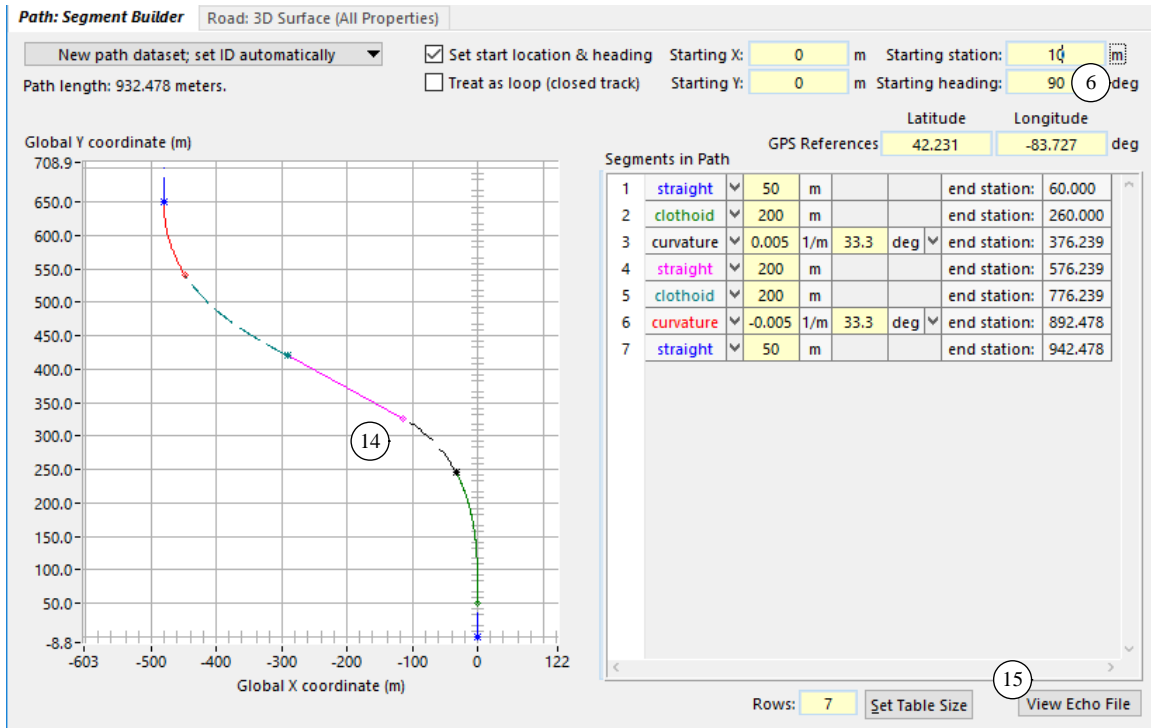

Figure 9. Effect of setting the starting heading angle to 90° for the example path.
- ⑭ A plot is made with coordinates calculated using the current settings on the screen. Different segments are shown in different plot colors and/or line styles that match the colors used for the first text column of the table ⑧.
- Whenever a change is made to the specifications of the path, the VS Browser generates new X-Y coordinates of points along the path and updates the plot. For example, Figure 9 shows how the path is cleanly rotated by changing the initial heading angle from 0 to 90° ⑥.